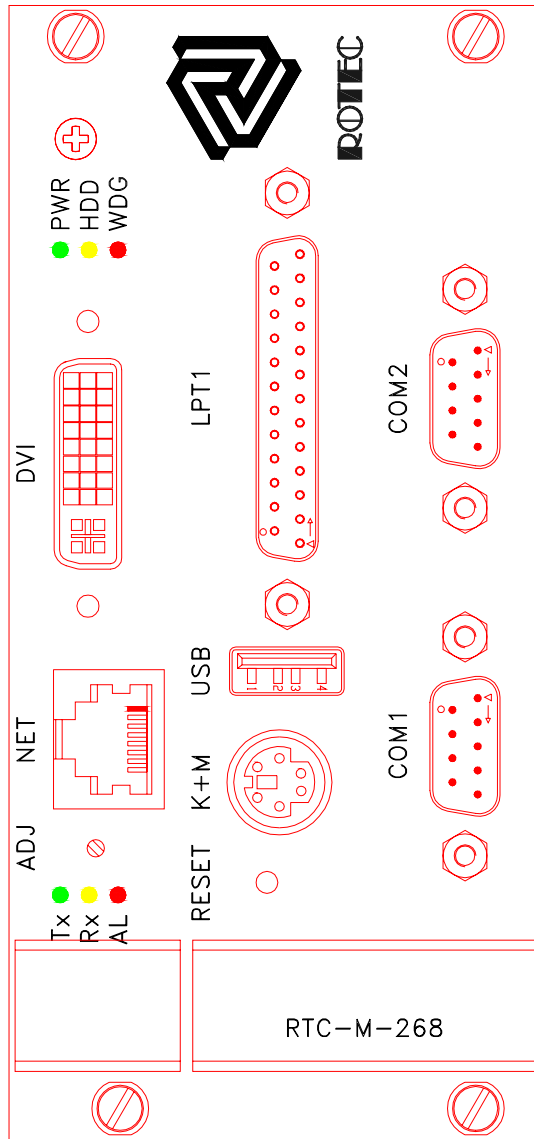

Fig. 5: Gamma7 (3 HE) - Front View
1. 3 HE (height modules) (see Figure 5, height approx. 13 cm) standard Gamma7 front plate